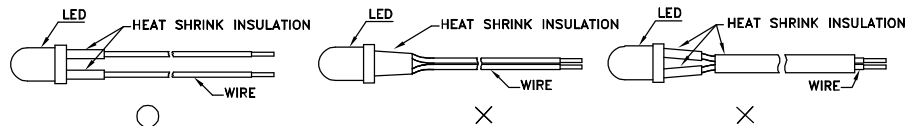

Fig. 2
- ### 3. When soldering wires to the LED, each wire joint should be separately insulated with heat-shrink tube to prevent short-circuit contact. Do not bundle both wires in one heat shrink tube to avoid pinching the LED leads. Pinching stress on the LED leads may damage the internal structures and cause failure. (Fig. 2)